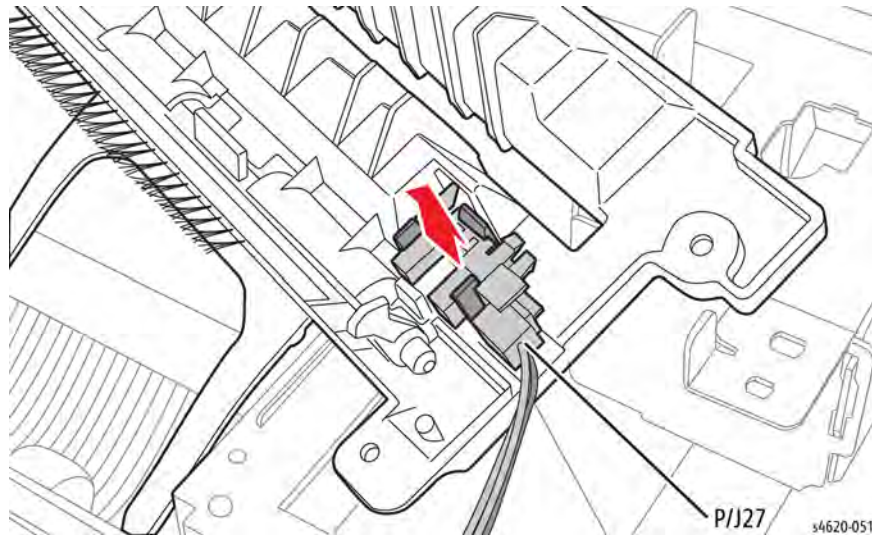

Figure 3 Remove the Stack Full Sensor
12. Release 3 hooks that secure the sensor to the Exit Chute, Figure 3.